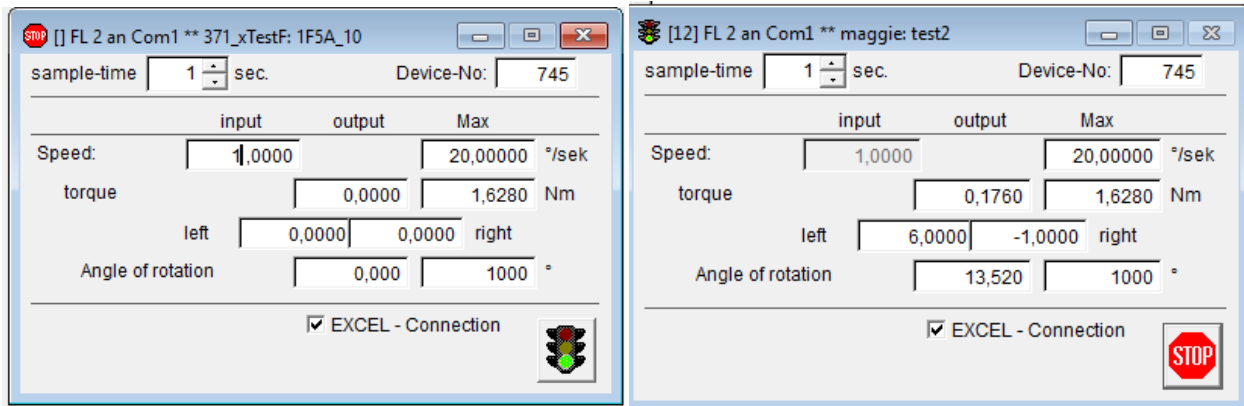
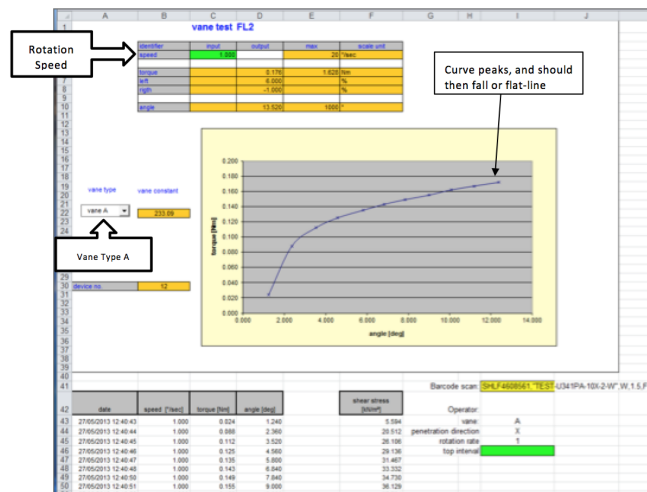

Figure 5a. Set Acquisition Parameters. Figure 5b (click stop sign after the measurement).
Figure 6. Monitor Acquisition.
6. With GeoLAB already open, Click on *init*; set **sample-time** to 1 or 2 readings/sec (i.e., sampling rate); and click the **traffic light** icon to start the measurement (*Figure 5a*). Monitor the test curve on the Excel screen (*Figure 6*). When the maximum shear strength of the sediment (highest point of the curve) has been reached, stop the test by clicking the **STOP sign** icon in the **GeoLAB** application (*Figure 5b*).